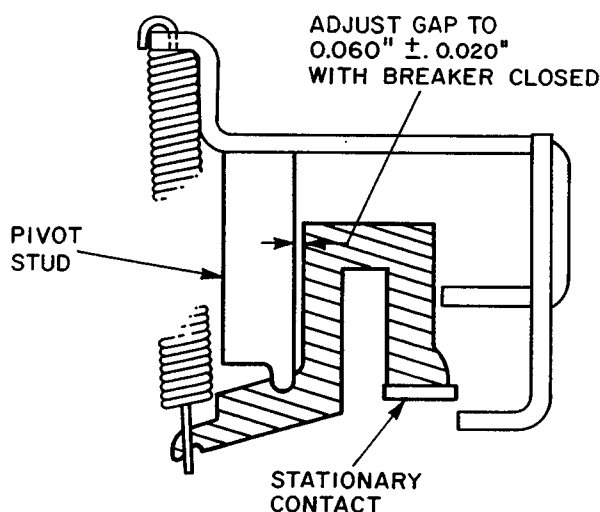

Fig. 7. AKR-30 wiper adjustment - view from top of breaker
4. Select one pole and, using a flat or wire feeler gage, measure the gap between the top contact and its pivot stud as shown in Fig. 7. As necessary, adjust the gap to 0.060 ± 0.020 inch by turning the wipe adjustment stud.